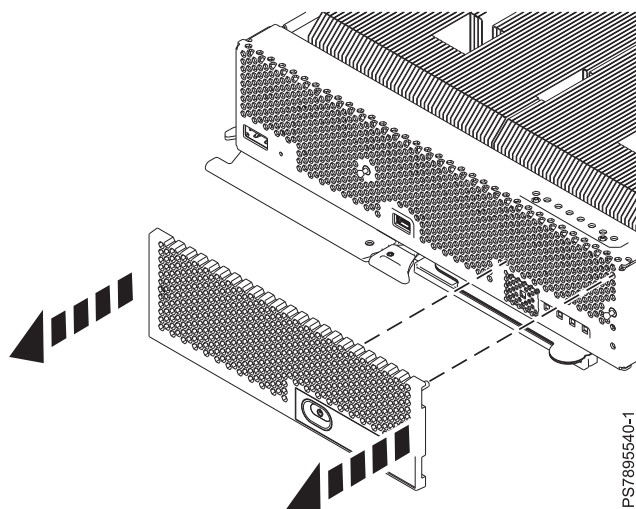

Figure 48. Removing the bezel assembly from an IBM Flex System p270 Compute Node
13. Remove the bezel assembly. Locate the bezel on the right-side at the front of the compute node. Holding both sides of the bezel assembly, pull the bezel assembly away from the compute node as shown in Figure 48 on page 86.